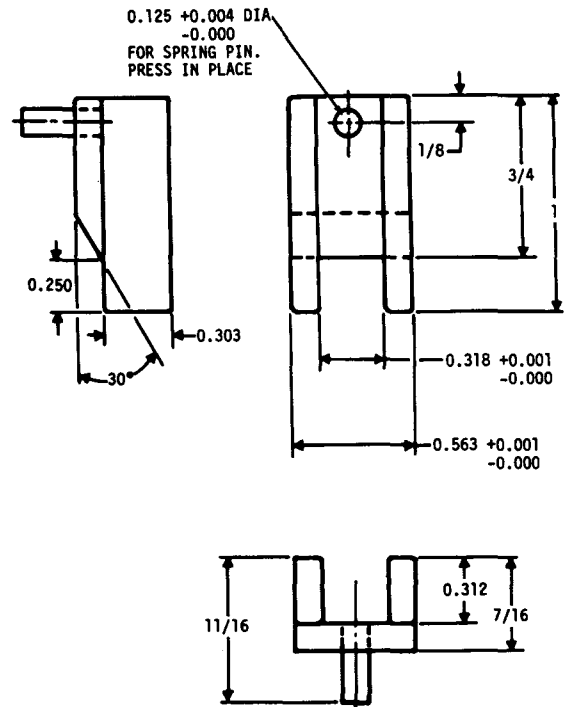

Fig. 4-2. Switch sequence test tool
(11) If the light pattern, in the table above, is obtained, and no other lamps come on, the functioning of the switches is satisfactory. If any other pattern is obtained, either the switch assembly is faulty, or the wiring is faulty or connected improperly to the switches.
(12) A further check, using the lamp bank, is necessary to determine if the switch assembly is properly aligned, angularly, with the selector lever. Any clockwise or counterclockwise mislocation of the switch assembly in relation to the selector lever shift positions will affect the sequence timing of the switches.
(13) To make this alinement check, a tool as shown in figure 4-2 is necessary. Place the tool on the selector lever (fig. 4-3). The tool holds the shift lever at the midpoint between two shift positions, but provides a tolerance of movement sufficient for complete switching transition from one shift position to the next. All changes in the light pattern should occur within the movement tolerance. The chart below indicates the light patterns at each test position.